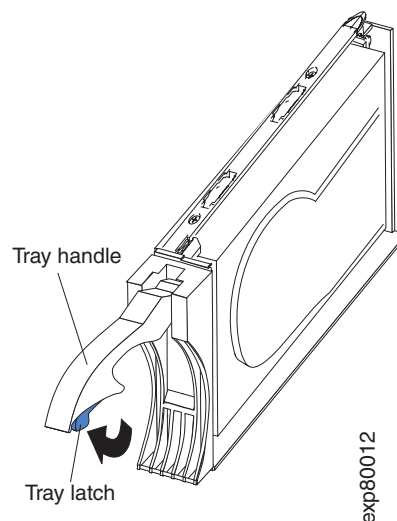

Figure 75. EV-DDM CRU handle
- b. Pull the handle on the tray out so that it is in the open position, as shown in Figure 75.
- a. Release the latch on the EV-DDM CRU by pressing on the inside of the bottom of the tray handle, as shown by the arrow in Figure 75 on page 113.